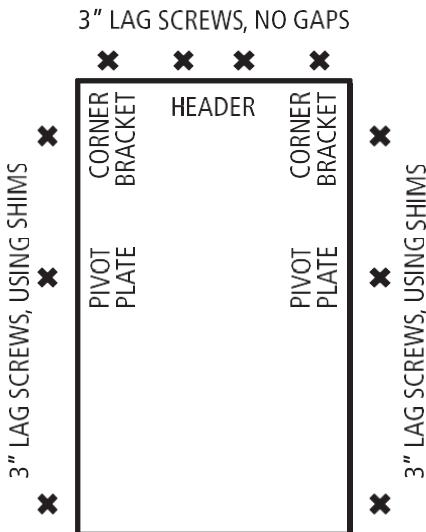

FIGURE 8: Aluminum and Wood series
A. The ladder comes with pre-drilled holes for permanent installation at locations shown in Figure 8. Shim, when necessary to fill space between ladder frame and rough opening, at pre-drilled locations. Using  $3/16"$  drill bit, drill 3" deep pilot holes through shim and into ceiling joists and header.